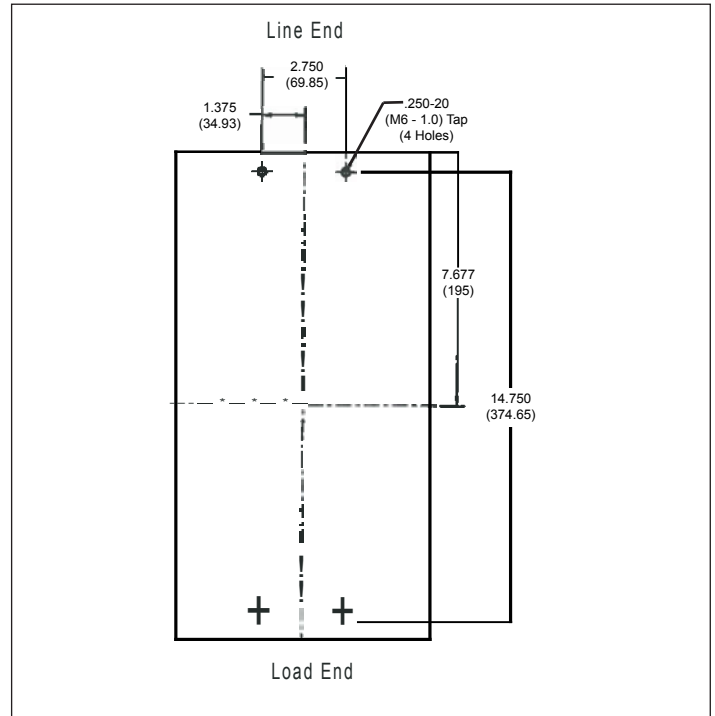
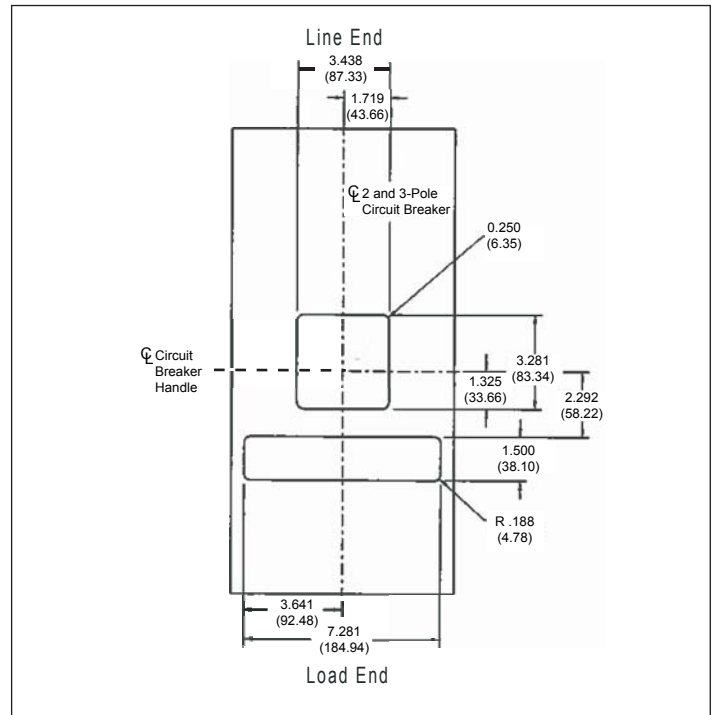

Figure 8. 2 and 3-Pole Mounting Bolt Drilling Plan.
Figure 9. 2 and 3-Pole Cutout Dimensions.
- a. For individual surface mounting, drill the mounting panel using the drilling plan shown in **Figure 8**. For panelboard mounting, only load end support mounting holes are required. For Deadfront cover applications, cut out cover to correct escutcheon dimensions, see **Figure 9**.
Existing cutouts must be modified to agree with requirements shown in **Figure 9**.